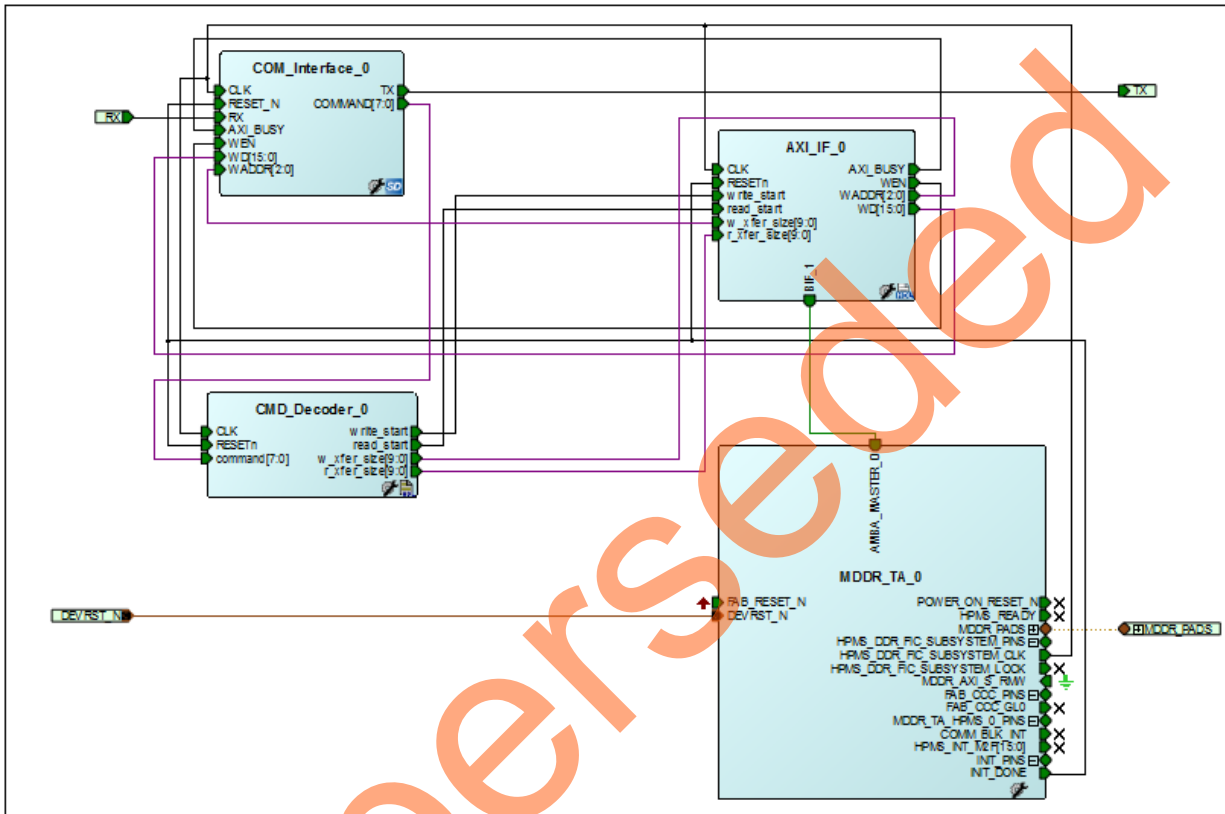

Figure 7 • Top-Level SmartDesign
Figure 7 shows the top-level SmartDesign of the example design.
7. Instantiate the custom logic (AXI master, Command decoder, and COM interface) and make the connections as shown in Figure 7 on page 9.